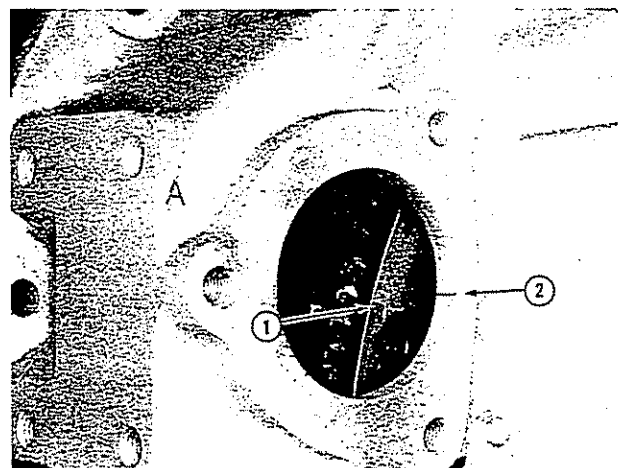

Fig. 2-60, (K21918). Valve set marks on right bank flywheel and housing — KT/KTA38
2. When barring the engine from the right bank at the flywheel housing "A" VS timing marks on the flywheel (1, Fig. 2-60) must align with the scribe mark (2) when viewed through the opening marked "A" on the flywheel housing.